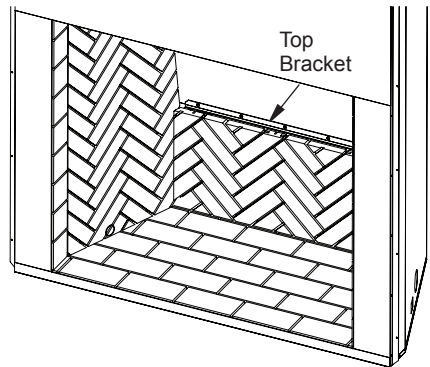

Figure 22 - Installing Bottom Rear Wall
4. Install the bottom rear firebrick wall. Place the wall face side down on the hearth with the bottom of the wall toward the rear of the firebox and the top toward the front of the fireplace. Tilt the wall up toward the back of the firebox. Secure bracket at top of the firebrick wall to the rear firebox surround (Figure 22).